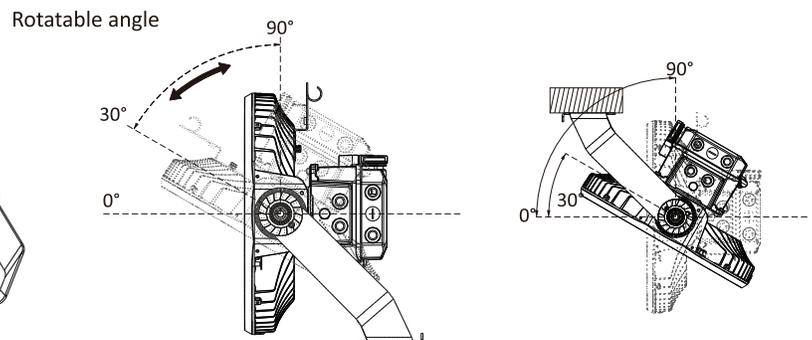

Fig. 5
4. Loosen the angle adjustment bolt on the side of the yoke mount (Fig. 5) to set the fixture to the desired angle. Re-tighten to secure.